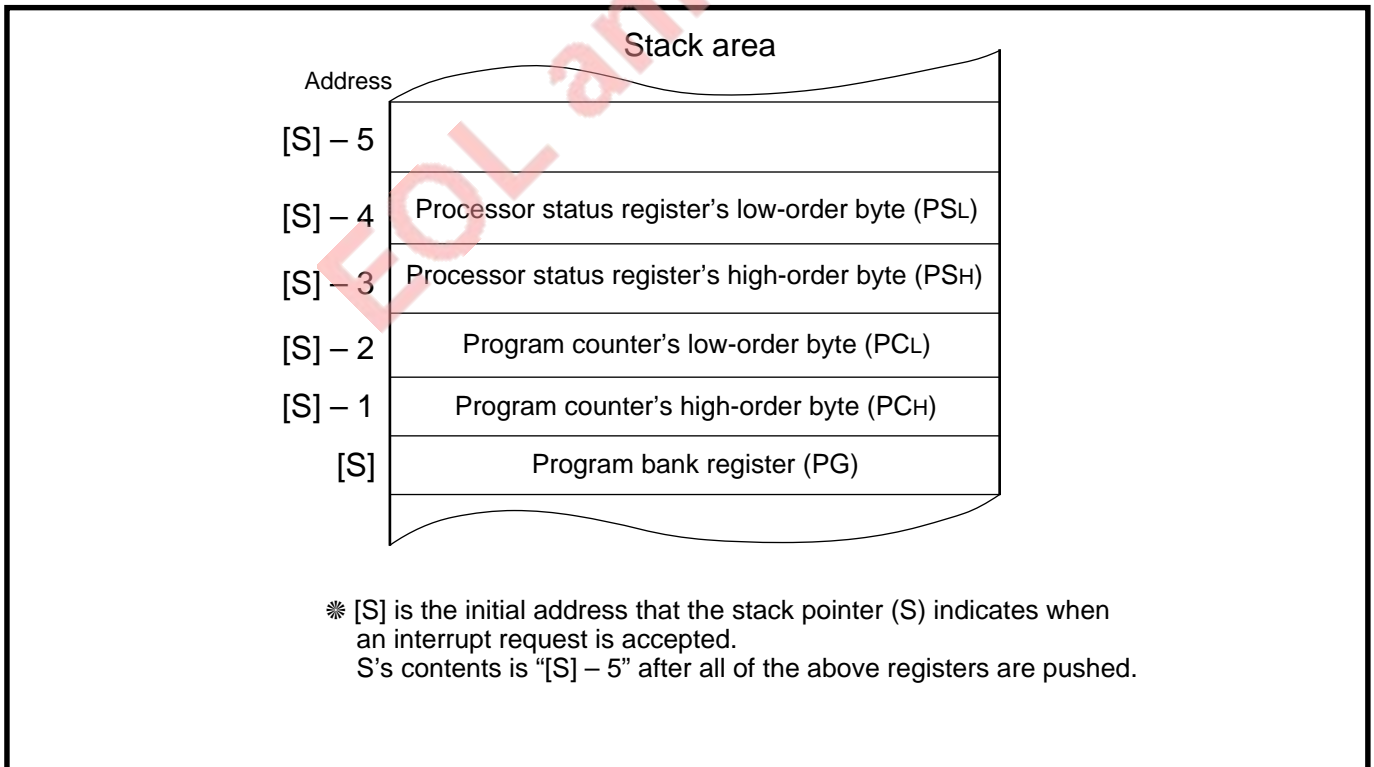

Fig. 2.1.2 Stored registers in stack area
When an interrupt request is accepted, the microcomputer stores the contents of the program bank register (PG) into an address indicated by the contents of S and decrements the contents of S by 1. Then the microcomputer stores the contents of the program counter (PC) and the processor status register (PS). After acceptance of an interrupt request, the contents of S becomes  $[S] - 5$ . ( $[S]$  is the initial address that the stack pointer (S) indicates when an interrupt request is accepted.) (Refer to **Figure 2.1.2.**)